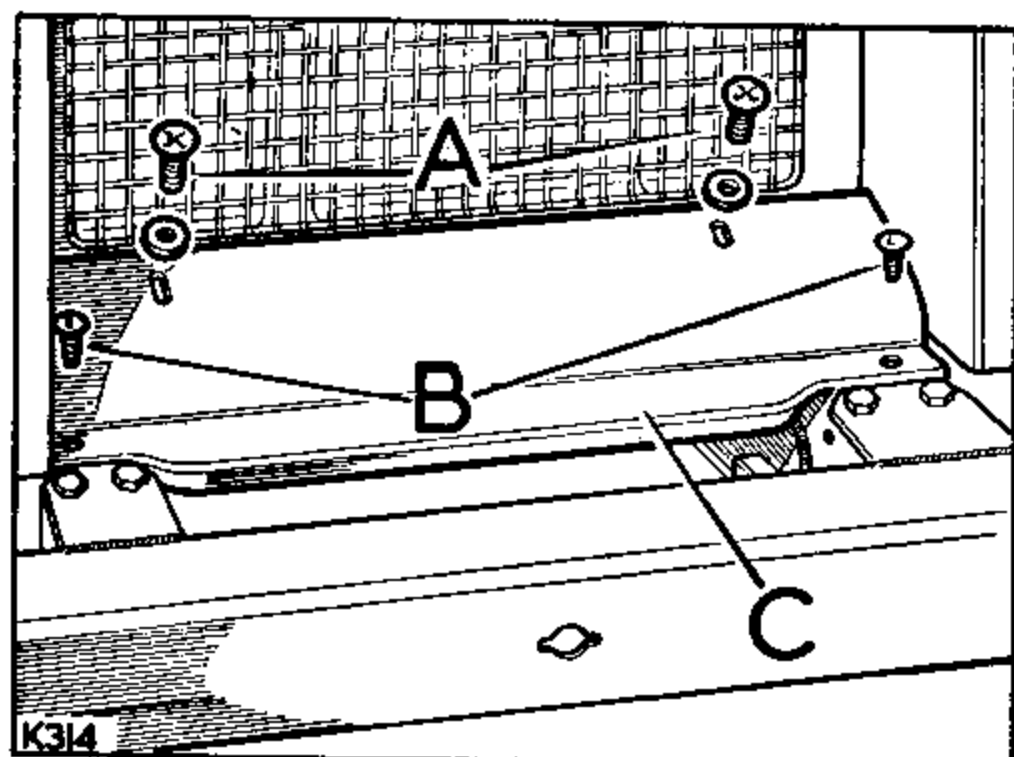

Fig. Q1-4. Apron panel fixings
4. Refit the front apron panel. Fig. Q1-4 refers.